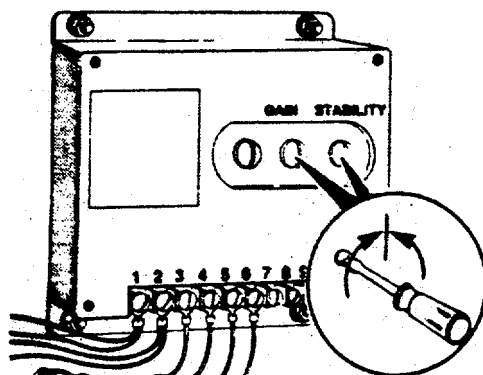

FIGURE 3-15. Stability and Gain Control Adjustment.
- (2) Set the STABILITY and GAIN controls to approximately midpoint. (FIGURE 3-15)